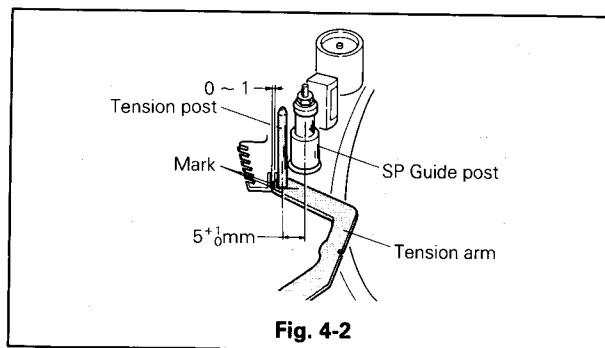

Fig. 4-2
- During the playback mode, make sure that the tension post is within the range as shown in Fig. 4-2.